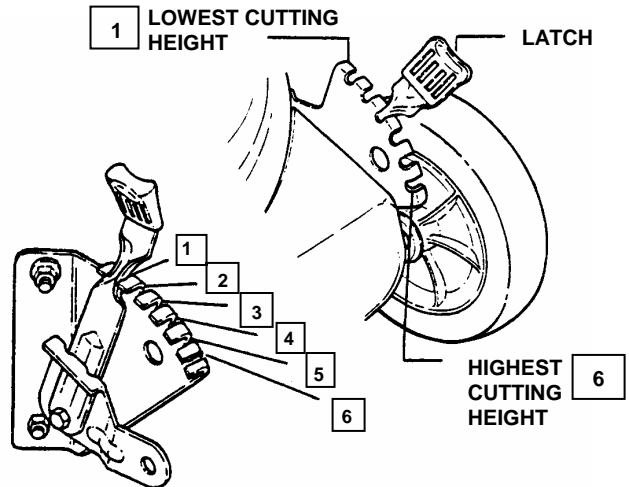

FIGURE 2.7
1. Pull the height adjusting latch outward and move to desired cutting height. See Figure 2.7.
2. Set all wheels at the same cutting height. The highest cutting position is Notch 6. The lowest cutting position is Notch 1. See Figures 2.7 & 2.8.